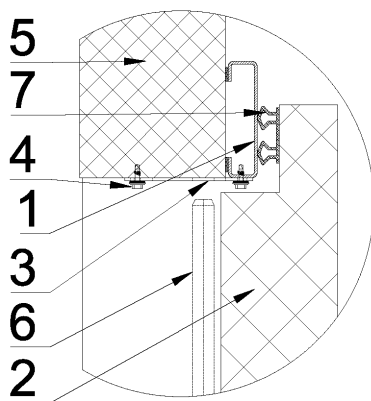

Figure 12.
1. Place the plates into position, using the screws of the adjusting (oval) holes, so that the attachment points are in the wall and on the overhead door frame (Figure 12).